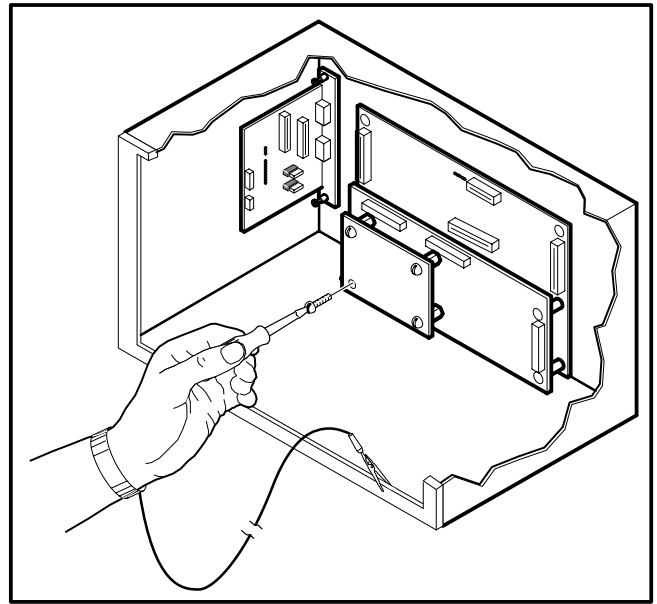

FIGURE 3-3. BOARD MOUNTING
7. Mount the board as shown in Figure 3-3, using the screws removed from the analog board. Tighten the mounting screws securely.